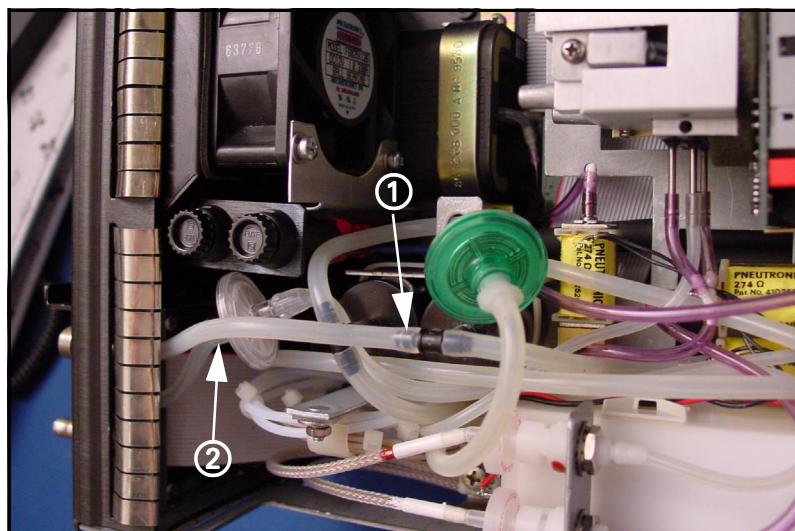

Figure 3-5 Pneumatic Tubing Disconnection Points
5. Disconnect tubing connecting patient sample gas outlet port to pulse dampener at pulse dampener (① in Figure 3-5).
6. Disconnect tubing connecting zero gas inlet port to zero gas dust filter at dust filter (② in Figure 3-5, shown partially obstructed).